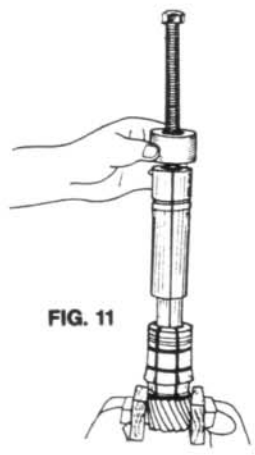

FIG. 11
6. Place SMALL PLASTIC TUBE onto split tube. (Fig. 11)